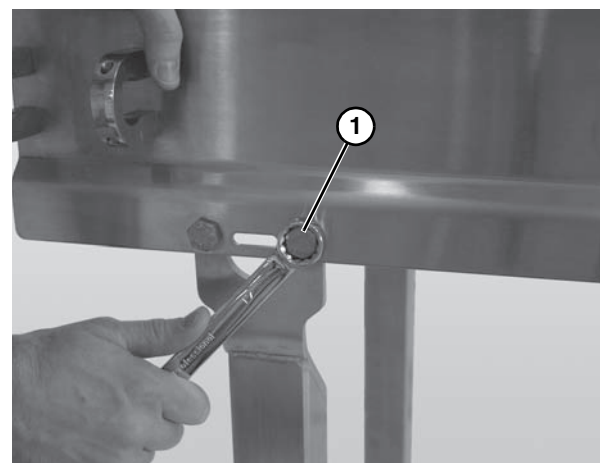

Figure 14
- Attach the stands to the frame (**Figure 14, item 1**).